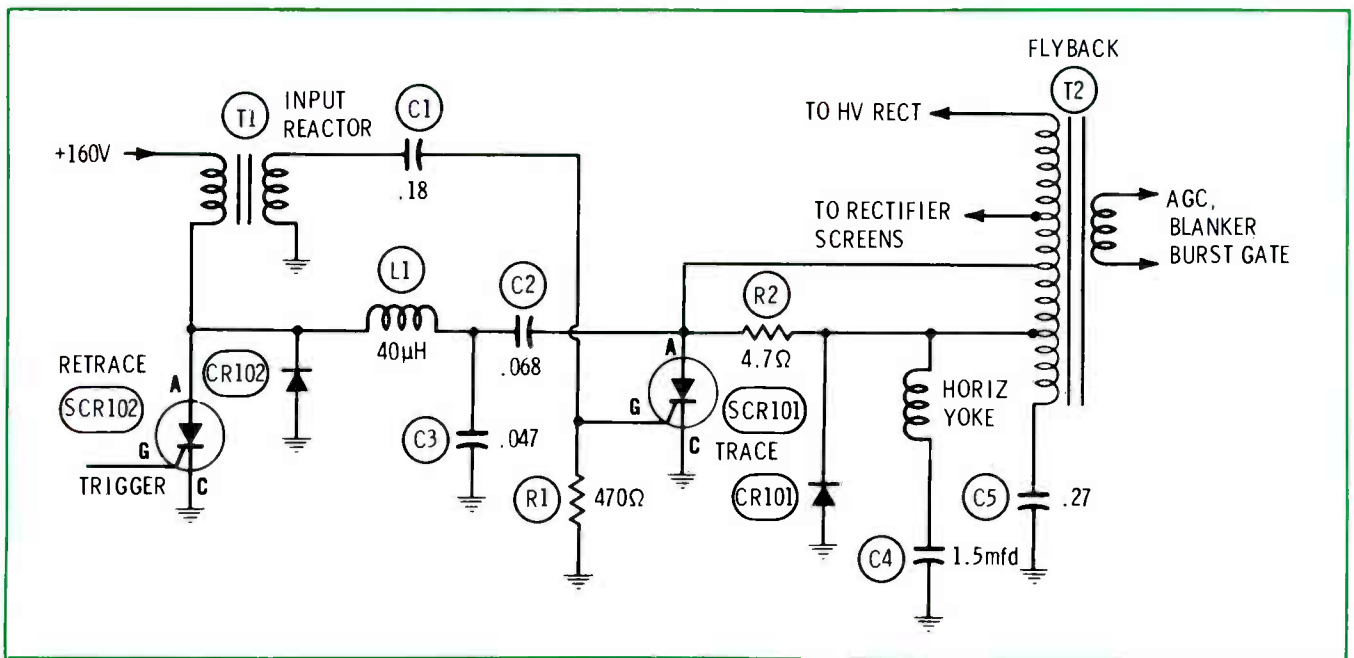

Fig. 1. Essential components of a SCR deflection system.
Figure 1 shows the essential elements of the SCR deflection system. In addition to the circuit elements shown here, various chassis have some or all of the following auxiliary circuits: voltage regulation, linearity correction, pincushion correction, over-voltage shutdown, and supply-voltage take-offs. These take-offs include screen voltage, focus voltage, high voltage, and B+. In one chassis it even supplies filament voltage for the picture tube. They will be discussed after the basics have been mastered.
Intermittent opens are the real bugaboo when the trouble is repeated failure of SCR101 and CR101. Some of the locations we have heard about or seen are: CR101 loose in its retaining clips, loose connections in the yoke socket, loose screws holding SCR101 in its socket, and cold solder joints where T1 (Figure 1) is soldered to the circuit boards. Another cause is a pinhole through the mica insulator between SCR101 and its heat sink. The arc which forms intermittently can also zap either the SCR or the diode.
- Shorts beyond the storage capacitor, C2 of Fig. 1, seldom cause the circuit breaker to trip, except possibly at the moment the short first occurs.